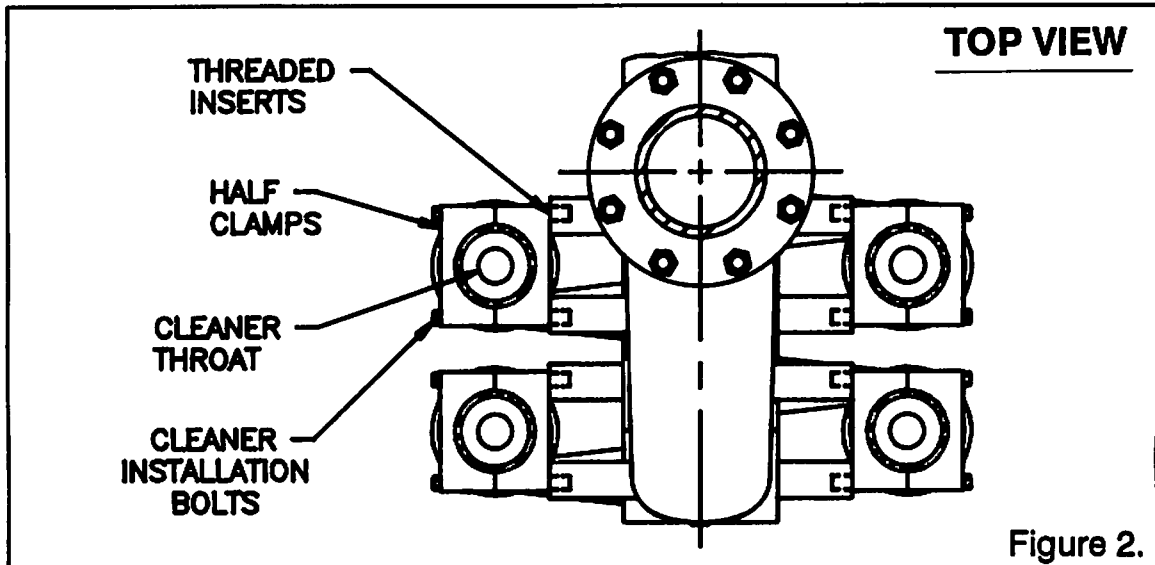

Figure 2.
4. In the cleaner assembly box are (2) loose plastic clamps. Place one of these clamps against the "feed-accept" module aligned with the threaded inserts of the module and with the open side of the clamp facing the cleaner. Refer to Figure 2.